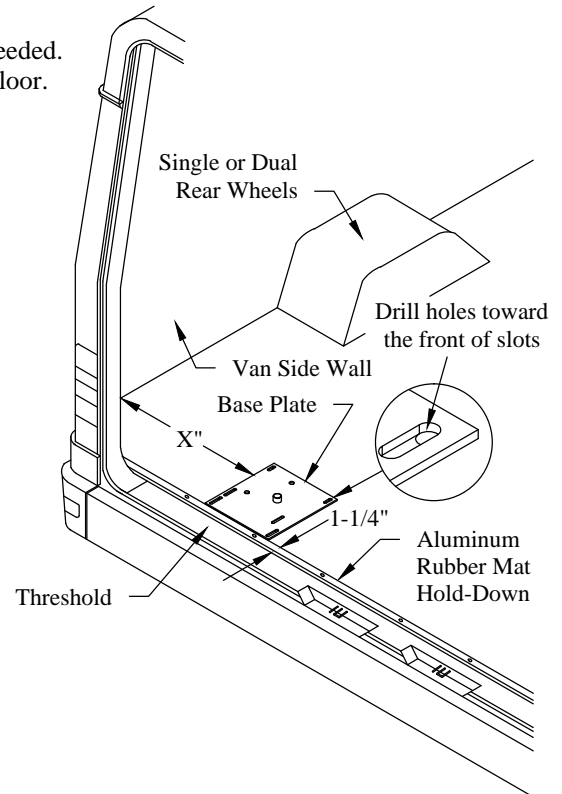

Figure 3: Base plate location.
- 5. Position** the base plate in the van as described in note A (Figure 3 & Table 2).